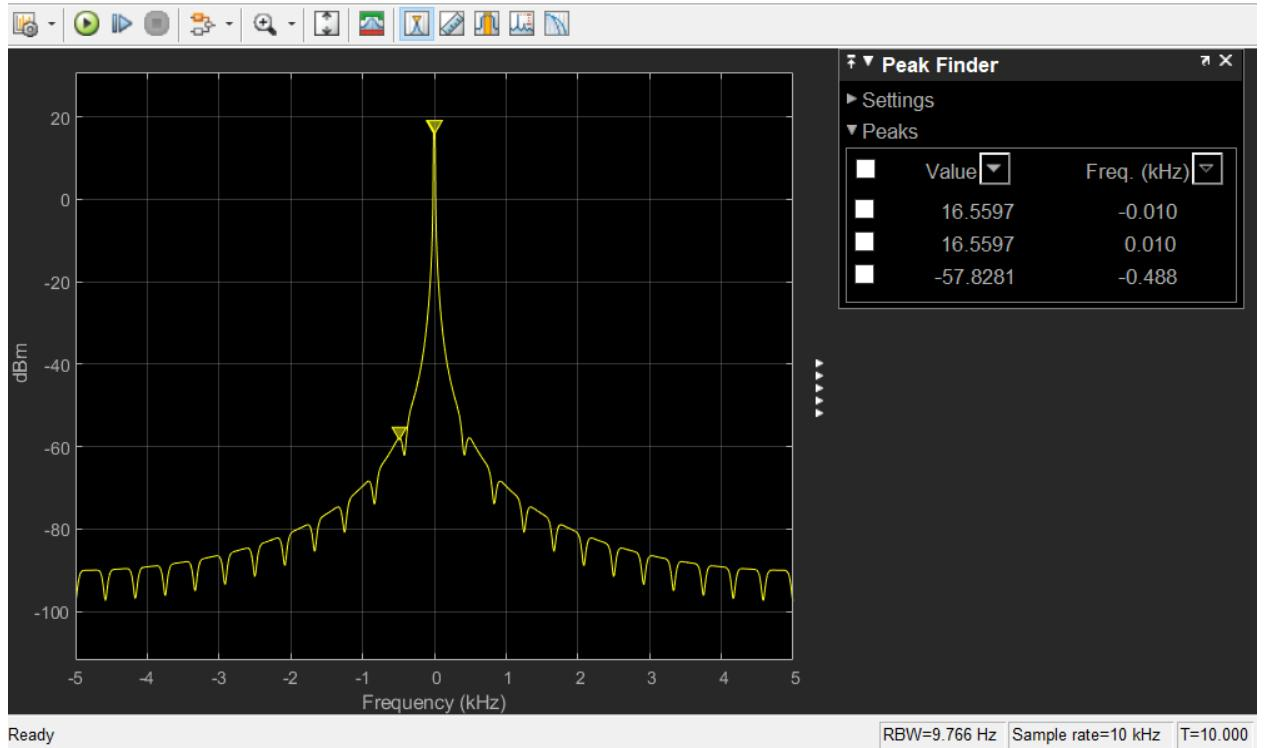

**Fig. 2: Output of the sine-wave on the Spectrum**
- 1) In this experiment, the first task is using a sample based sine wave with setting amplitude to 0.5, samples per period to 1000, and sample time to 1e-4. This sine wave is then connected to a scope and a spectrum, and the outputs on them are shown below (Fig. 1 and Fig. 2).